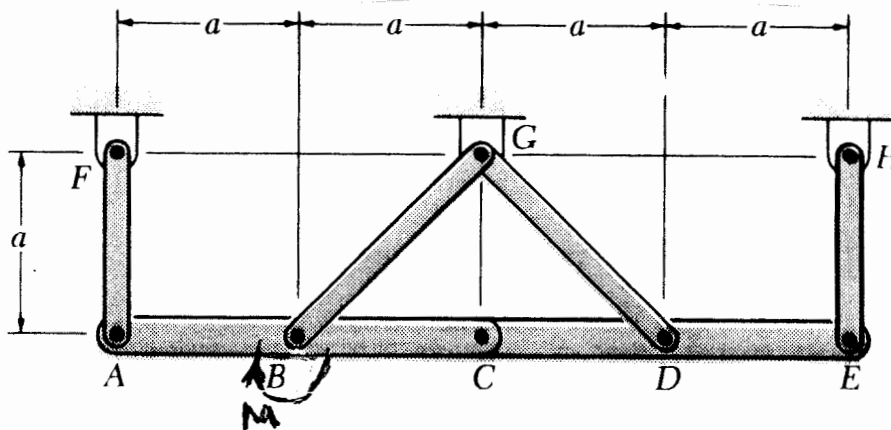

Fig. P1
- 1) In Fig. P1 shown, determine the force in each of the four links AF , BG , DG , and EH . [Sec. 6.6] (15 pts.)